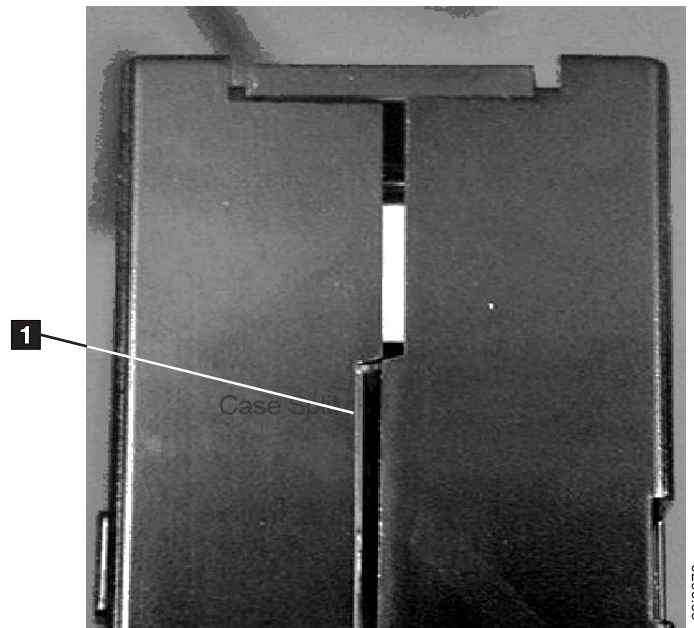

Figure 6-6. Checking for gaps in the seams of a cartridge
- Inspect the rear of the cartridge (the part that loads first into the tape load compartment) and ensure that there are no gaps in the seam of the cartridge case. If there are gaps in the seam (see Figure 6-6), the leader pin may be dislodged.